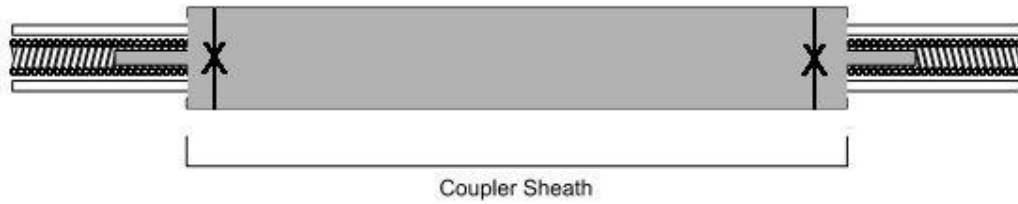

Figure 6: Coupler Sheath over Completed Coupler Assembly
6. Slide a clear coupler sheath over the metal tube. This sheath should cover all exposed metals. (See Figure 6)